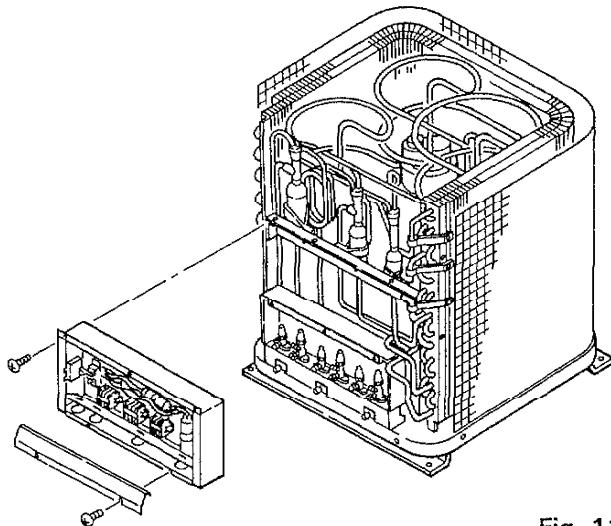

Fig. 11
- (1) Compressor wire
- (2) Thermostat wiring
- (3) The electrical component box can now be removed by unscrewing screw. Fig. 11.